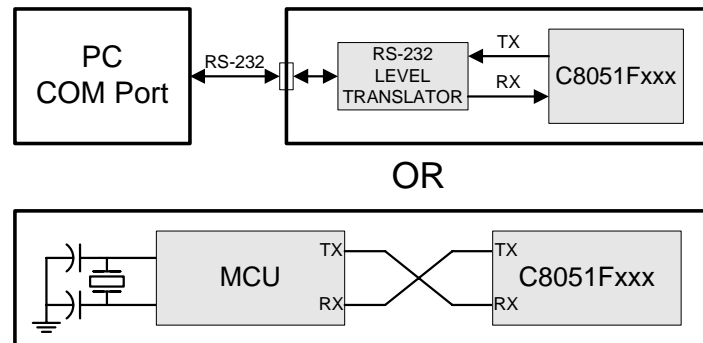

Figure 27.5. Typical UART Interconnect Diagram
In typical UART communications, The transmit (TX) output of one device is connected to the receive (RX) input of the other device, either directly or through a bus transceiver, as shown in Figure 27.5.